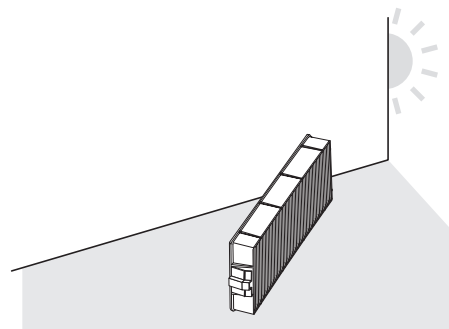

Fig. 2
- Pull out the main filter unit from the tabs of the projector while slightly pressing the knob at the center of the frame at the connecting terminal side (rear side) inward as shown by the arrow, and remove the main filter unit. (Fig. 2)
**2) Dry the air filter unit. (Fig. 2)**
- Put the pre-filter into the claws (3 places) on one side of the air filter cover (Fig. 1), and then push each portion slowly in the direction of the arrows into the claws (3 places) on the other side (Fig. 2). Please make sure that there is no damage or deformation at the contact areas of the pre-filter with the claws when attaching it.